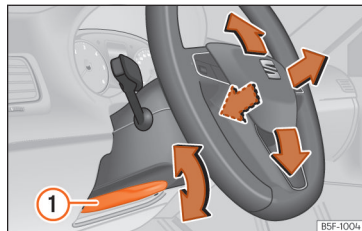

Fig. 20 Lever in the lower left side of the steering column.
• Adjusting the position of the steering wheel: pull the »» **Fig. 20** ① lever down, move the steering wheel to the desired position and lift the lever back up until it locks.